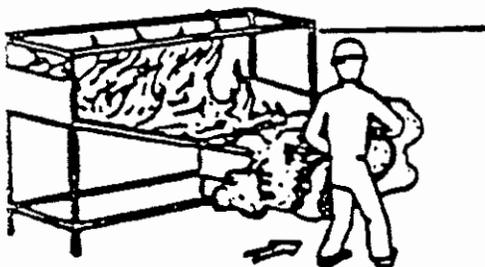
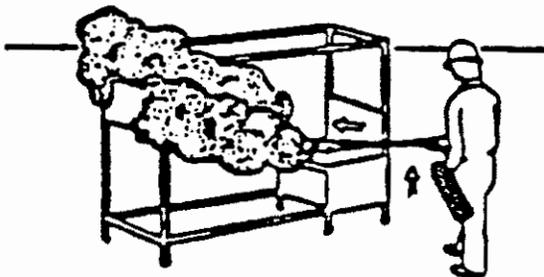

Fig. 3
Fig. 4
3. The spill fire must be completely out before attacking the elevated fire. Raise the powder stream slowly up the path of the fire extinguishing the fire as you go. (Fig. 3) Push the fire towards the fuel source. Extinguish the fuel source last. (Fig. 4)